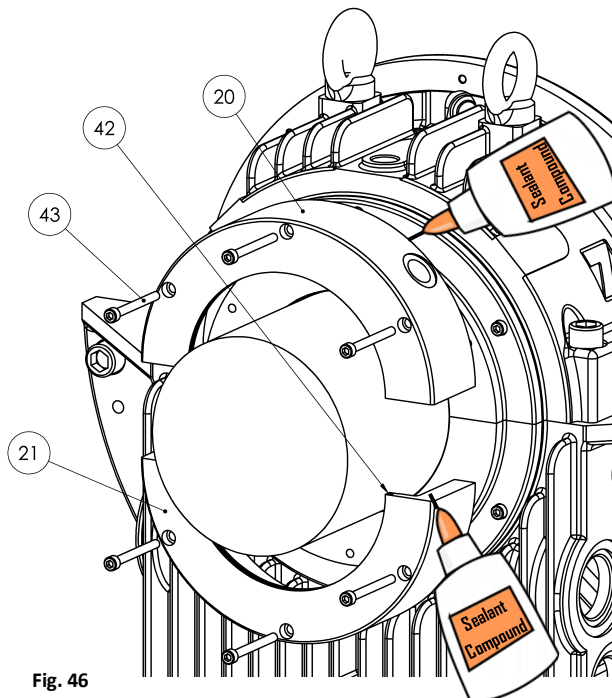

Fig. 46
- Apply the sealing compound on the surface of the split line and the face making contact with the seal carrier of the floating labyrinth seal or rigid seal (Fig. 46).
- Next, lightly press the lower part (21) (recognizable by the drain hole) onto the shaft from below and tighten the fastening screws.
- Then, position the upper part (20), align with the split line and attach with the screws.
- When the baffle is combined with a seal carrier, or follow the torque (A) on the torque table for screw (43).
- When the baffle is combined with an aluminum rigid seal, follow the torque (B) on the torque table for screw (43).